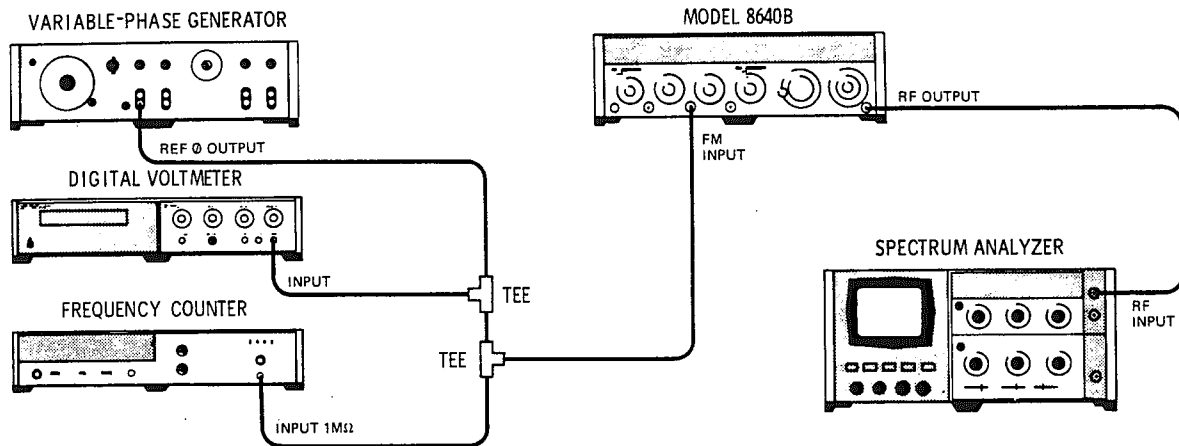

Figure 5-9. FM Sensitivity Adjustment Test Setup
1. Connect equipment as shown in Figure 5-9 after setting Signal Generator's controls as follows: